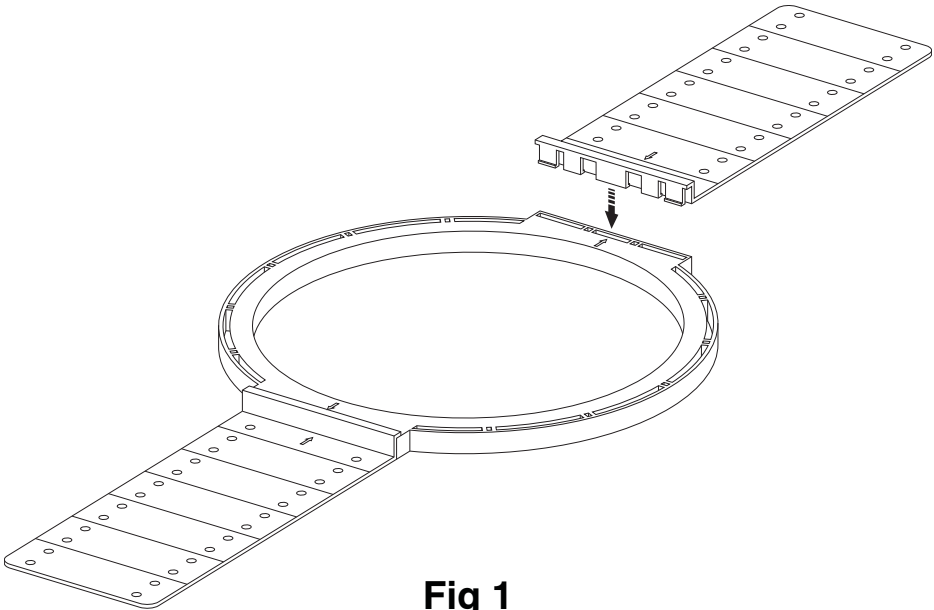

Fig 1
3. Attach the two wings to the round centre bracket by inserting them in the tabs as shown in Fig 1 & 2.